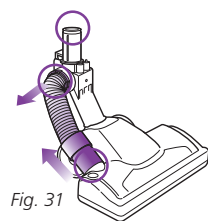

Fig. 31
- Detach the hose on the motorized floor brush at the top by squeezing the tabs together and pulling out, and at the bottom by pulling out the connector. Inspect inside the 3 holes. (Fig. 31)